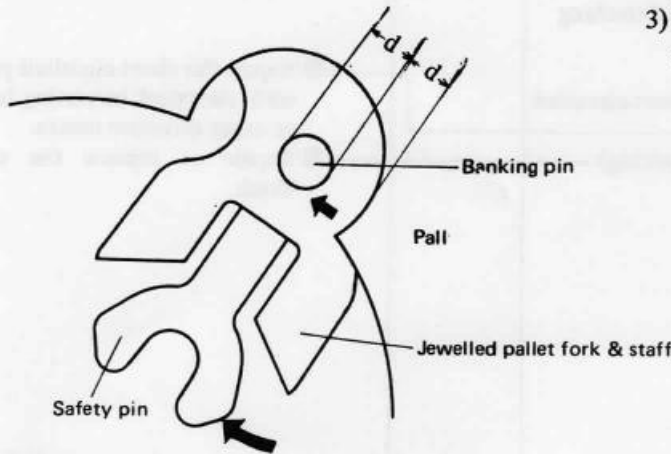

Fig. 4-6
- 2) Hold the tail (the part near the slot corner) of the pallet with nonmagnetic tweezers and move it gently in the \rightarrow direction (see Fig. 4.6) by the amount of "d" which corresponds to the banking pin size. Then release the tail from the tweezers (Fig. 4.6).